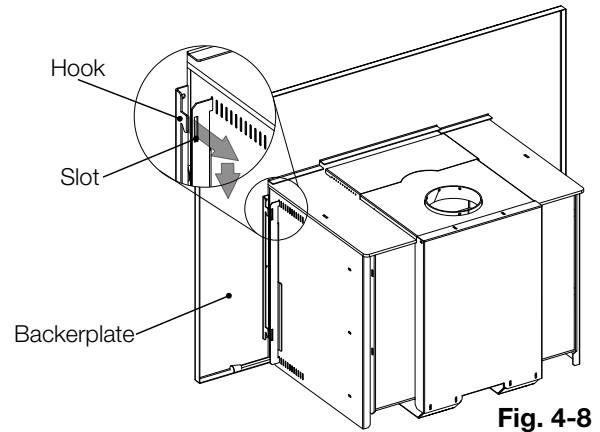

Fig. 4-8
- B.** Place the hooks on the backerplate into the slots in the brackets previously installed in step A (**Fig. 4-8**).